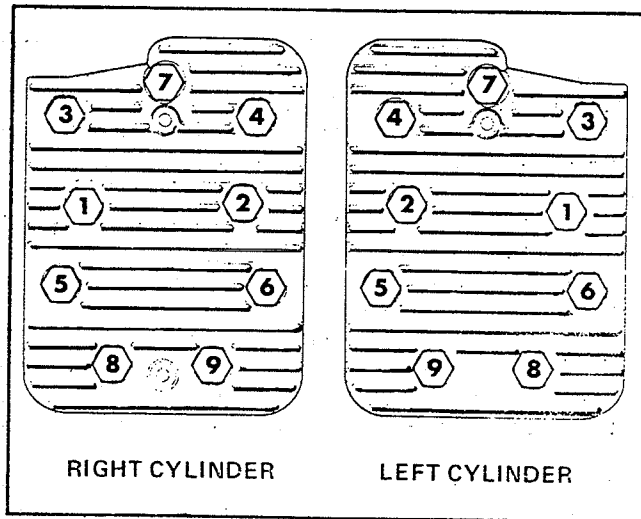

Figure 37. Cylinder head bolt tightening sequence.
3. See figure 37. Remove the cylinder head bolts. Turn them counter-clockwise to remove them.
6. Place one head in position on the cylinder block and install the head bolts, placing the longer bolts through the holes marked 1, 2, 3, 4 and 7 in figure 37.
7. A torque wrench should be used to tighten the head bolts. This should be done when the engine is at room temperature. Use the tightening sequence shown in figure 37. Tighten number 1 bolt to 5 foot-pounds torque, then number 2, etc. After all bolts are tightened to 5 foot-pounds, repeat the sequence, tightening each bolt to 10 foot-pounds. Repeat the sequence increasing 5 foot-pounds